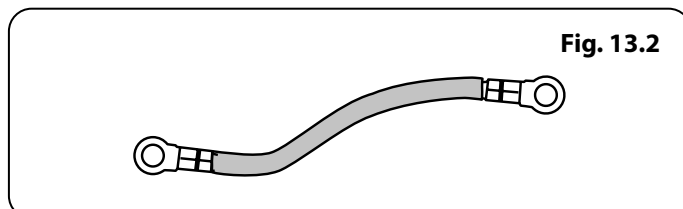

Fig. 13.2
**⚠ Your range is supplied with a ground strap that can be used when connecting to a three wire cord. Consult your electrician before changing the supplied cord kit (Fig. 13.2).**